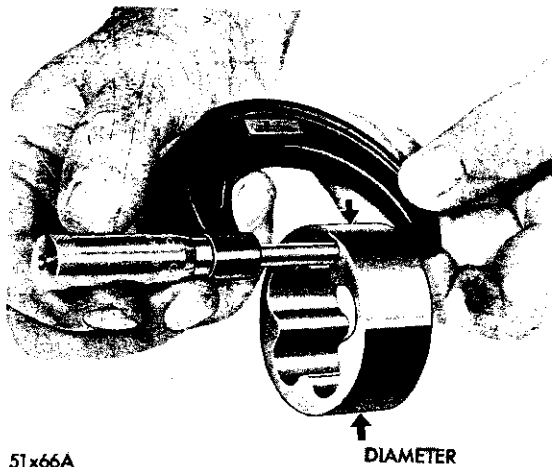

Fig. 4—Measuring the Outer Rotor Thickness
(3) If the outer rotor length measures less than .943 inch (Fig. 4) and the diameter less than 2.469 inches, replace the outer rotor.